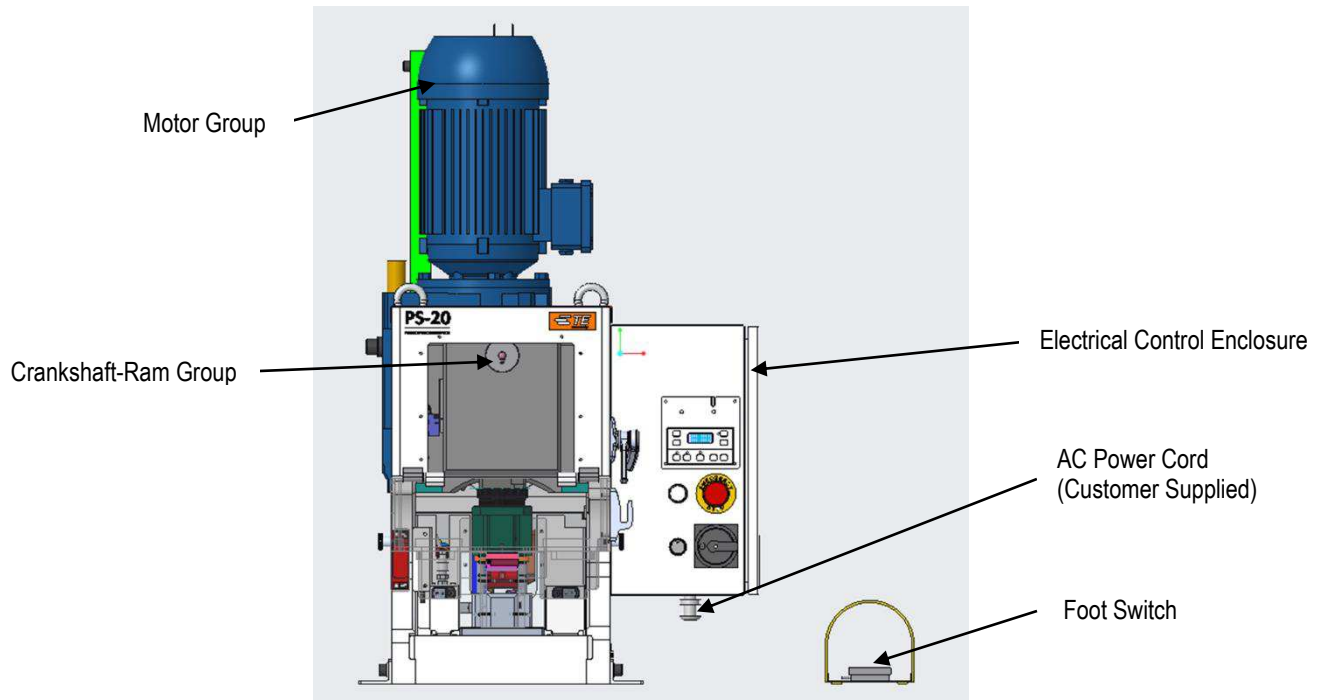

Figure 3
1. The **Motor Group** includes an AC motor which drives a crankshaft (see Figure 3). The motor is activated each cycle and rotates the crankshaft one full revolution.